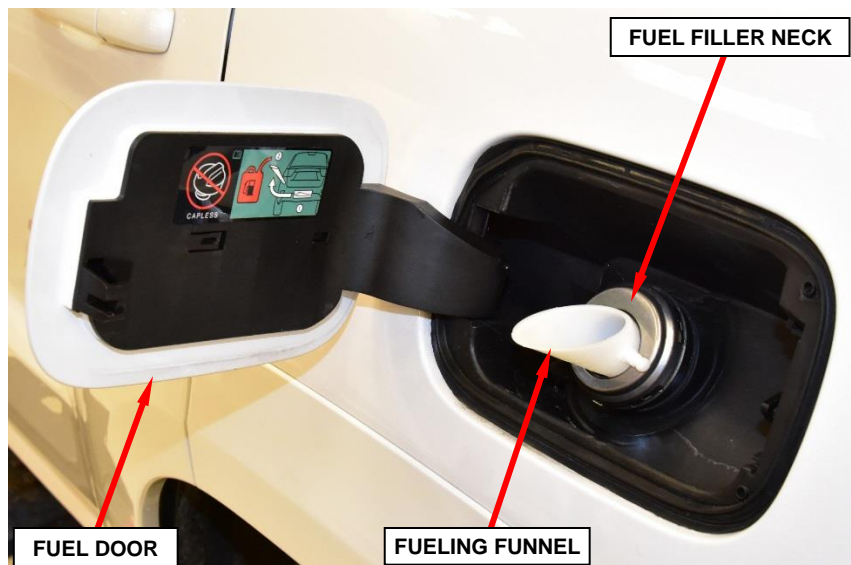

Figure 5 – Fuel Filler
2. Open the fuel door and insert the fueling funnel into the fuel filler neck to release any fuel tank pressure (Figure 5).
29. Remove the fueling funnel from the fuel filler neck then close the fuel door (Figure 5).